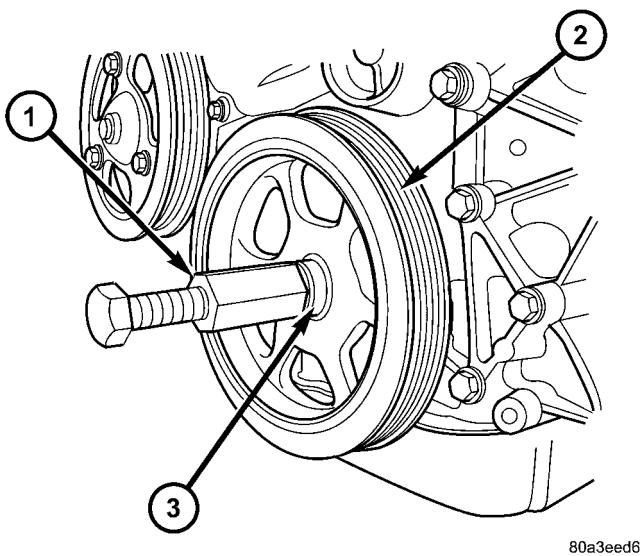

Fig. 85 Vibration Damper - Installation
- (1) Install crankshaft vibration damper using the forcing screw, nut, and thrust bearing/washer from Special Tool 8452 (Fig. 85).